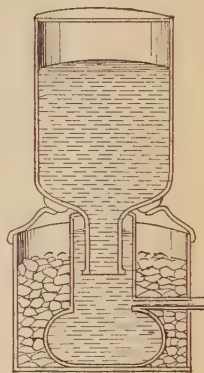
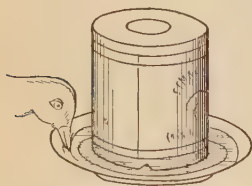

FIG. 108. — Drinking fountain.
FIG. 109. — Poultry fountain.
14. Explain the action of a so-called "pneumatic" inkstand (Fig. 107), or of a drinking fountain (Fig. 108), or of a poultry fountain (Fig. 109).